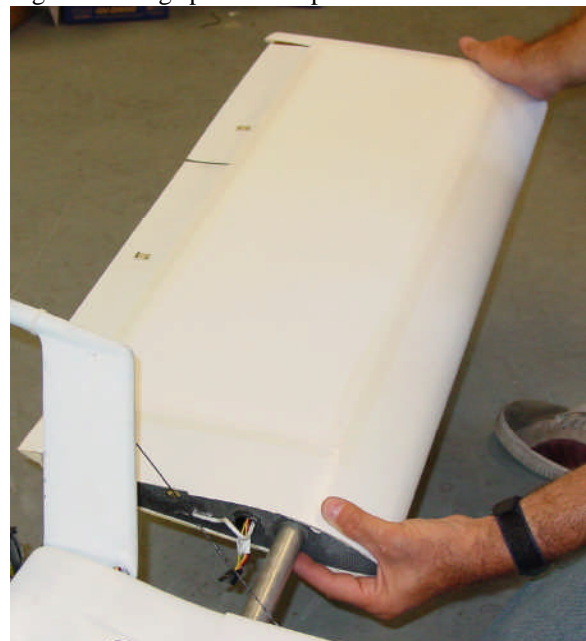

Figure 10. Attaching wing
- Using a finger on the hand that is holding the wing's leading edge, depress the snap button (Figure 10) and slide the wing a few inches farther onto the spar, but stop before the trailing edge alignment pin hits the wing.